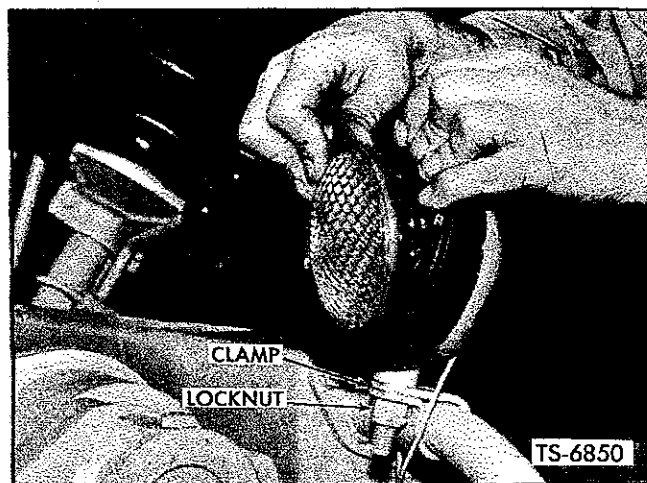

Fig. 12. Replace Headlamps or Back-Up Lamps
1. Loosen locknut on clamp securing floodlamp to handle assembly as shown in Figure 12.
If necessary to replace floodlamps, depress lamp and spread lip of rubber retainer outward forcing lamp out as shown in Figure 12 and disconnect terminals. Reconnect terminals on new lamp and reinstall in retainer.